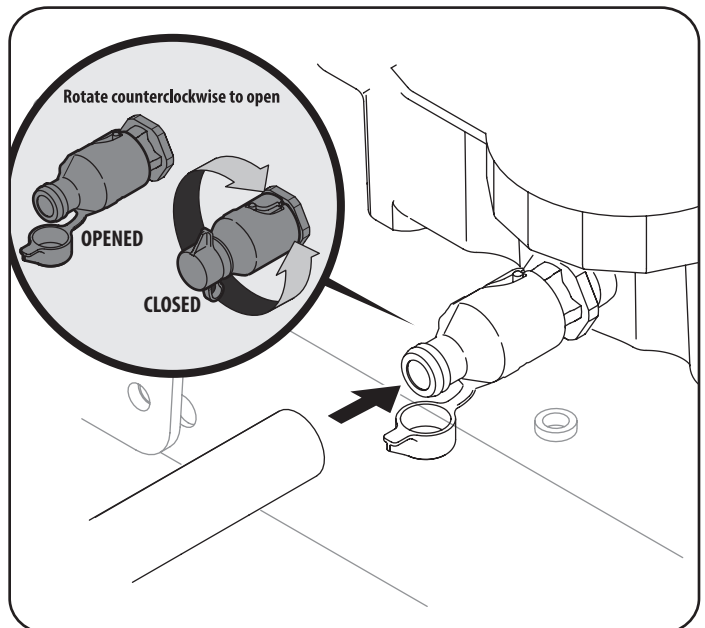

Figure 5
3. Open the protective cap on the end of the oil drain valve to expose the drain port. See inset of Figure 5.
6. Slightly push in on the oil drain valve and rotate counter-clockwise to open and allow the flow of oil. See Figure 5.